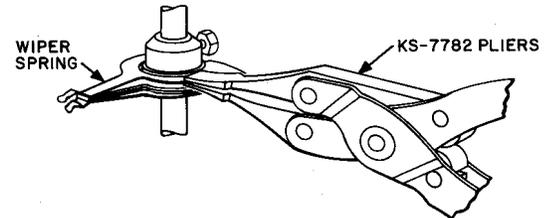

Fig. 12—Method of Adjusting Tension of Wiper Springs
- (4) To adjust the wiper spring tension, first loosen the wiper spring assembly on the shaft with the 3-inch C screwdriver or the 555A wrench. Rotate the springs into the space opposite the bank so that they are accessible.
- (5) To increase the tension of the wiper springs, apply the pliers to the circular part of the spring first on one side, as shown in Fig. 12, and then on the opposite side. Twist the pliers in a direction to force the wiper springs toward its opposing spring. Repeat this operation on the other spring of the pair, equalizing the adjustment so the follow on both springs of the pair will be the same when checked in accordance with requirement 2.09. Reset the wipers in their proper positions as described in 3.10 and 3.11.
- (6) If the wiper tips do not overlap the bank contacts as specified, proceed as follows.